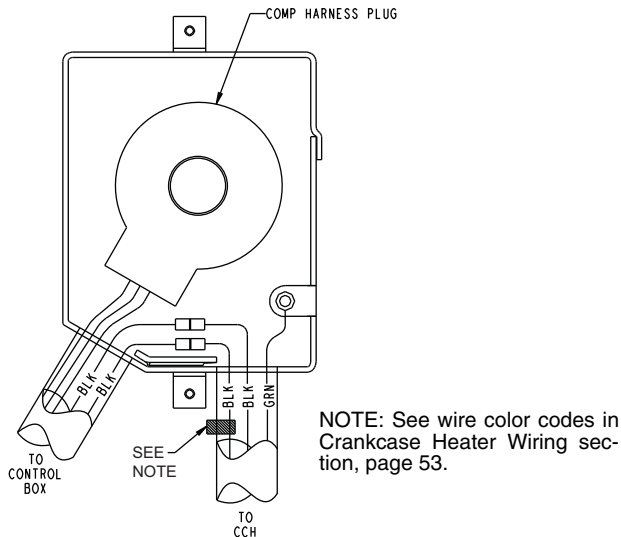
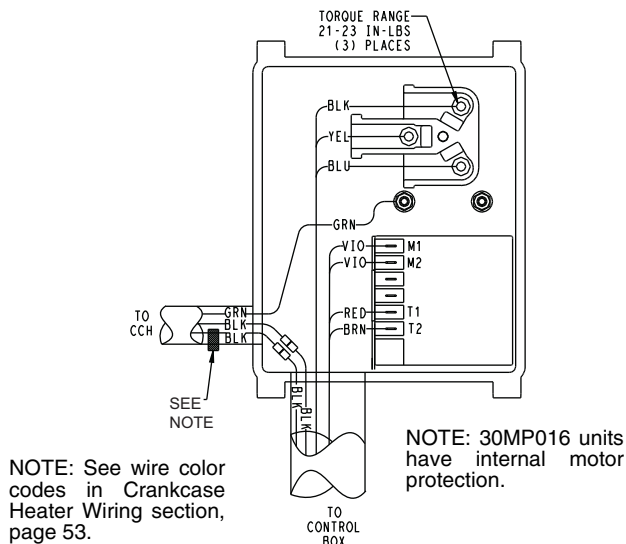

Fig. 36 — 30MP020-045 Compressor Junction Box without Motor Protection Module
Fig. 37 — 30MP016-045 Compressor Junction Box with Motor Protection Module
4. If the compressor is equipped with a motor protection module, disconnect the wiring to the device. See Fig. 37 or 38.
24. For compressors with the motor protection module, wire the power wiring and control wiring as shown in Fig. 37 and 38. Be sure the correct motor protection module is installed. Copeland replacement compressors can be shipped with one of two motor protection modules, Kriwan or CoreSense communication module. Replacement compressors shipped with Kriwan motor protection modules are shipped with two solid-state motor protection modules. A 120/240-volt module is installed and a 24-volt module is shipped with the compressor. Replacement 30MP020-045 compressors with CoreSense modules are shipped with a voltage specific solid-state motor protection module. These units require the 24-volt module be field installed. Failure to install the 24-volt module will result in a compressor failure alarm. For compressors without a motor protection module, install the motor plug by hand only. See Fig. 36.
CRANKCASE HEATER WIRING — Crankcase heaters are specific to unit voltage. Each crankcase heater has a color-coded tag to indicate voltage. Table 49 identifies tag color code for each voltage. See Fig. 36 and 37 for compressor junction box connection information.